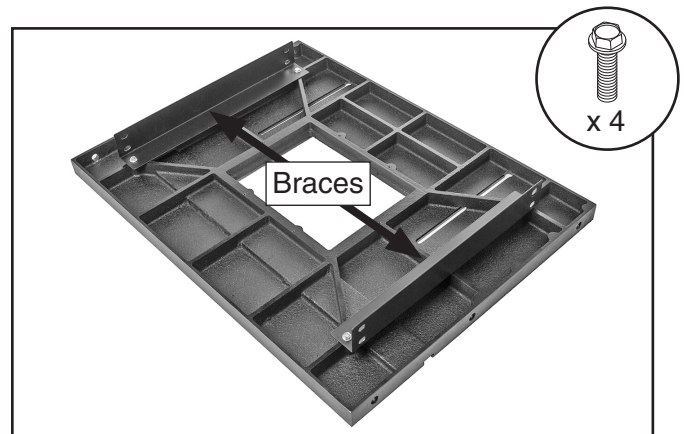

Figure 15. Upper short braces attached to table.
5. Place table (see **Figure 15**) upside-down on flat surface, then attach (2) upper short braces to table with (4) $\frac{5}{16}$ "-18 x $\frac{1}{2}$ " flange bolts.